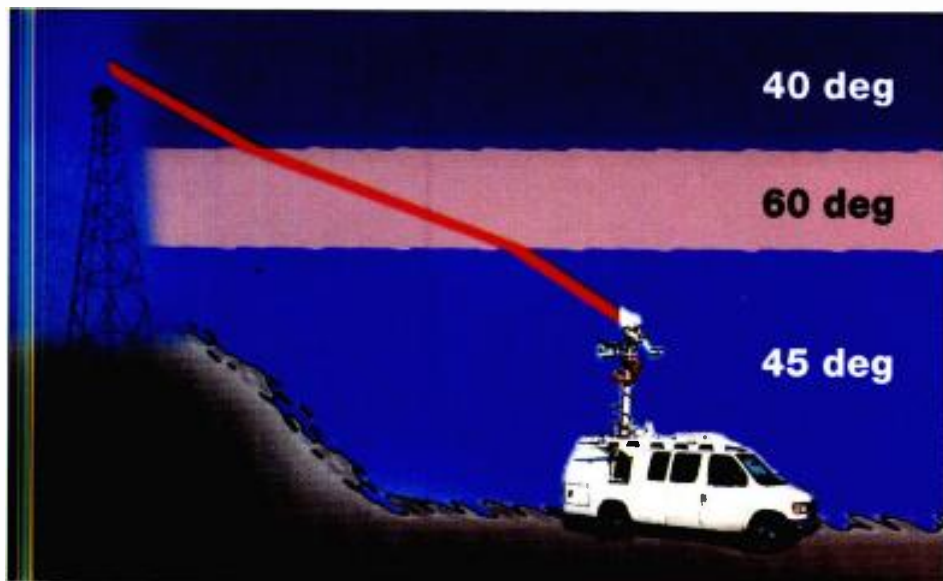

Figure 4: Knowing the height of transmit and receive antennas can help get you around trouble areas.
- If possible, put your ENG truck (transmitter) and receiver on the same side of the thermal layer. Links are only affected by the layers through which the signal passes (see Figure 4). If a live shot next to the lake is lost, it may be restorable by moving the truck a couple miles inland. This may get the truck out from underneath the thermocline. If a link cannot be established from a rural area back to the studio in the city, it is
Figure 4. The standard target decoder is a hypothetical model in the encoder architecture that allows an encoder to create compliant streams without having to base its design on any particular decoder.
ant streams without having to base their design around any particular decoder. MPEG-2 decoders also have standard target decoder buffers (TSTD) for both video and audio (See Figure 4). For ML@MP, these buffers are minimally 220kb for video and 4kb for audio.